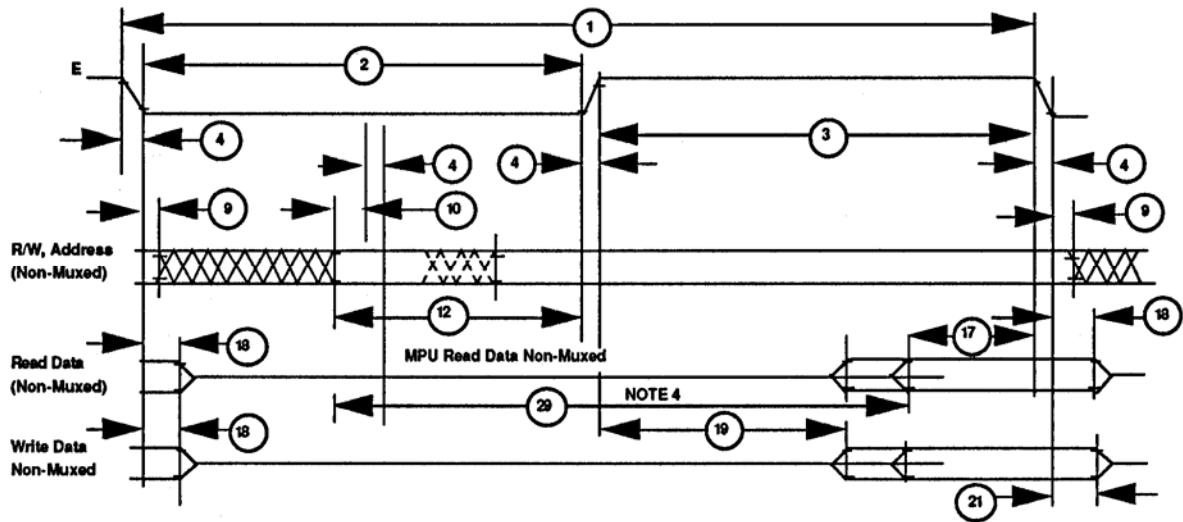

Figure 3-3. Read/Write Timing Diagram
A 4 MHz crystal is utilized with the internal clock circuitry to obtain 1 MHz operation. The (E) enable pin on the MPU supplies the clock for both the MPU and the rest of the system. Figure 3-3 is a typical timing diagram for write and read cycles.